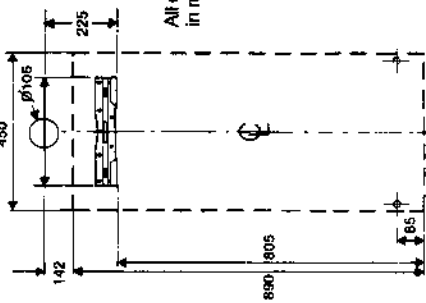

Fig. 13
5.4 Mounting the Appliance (Fig 13)
Alternatively, position bracket and holes to dimensions in fig 13.
Refer to fig. 13 and figs. 14-18 for relevant dimensions for locating the hole. Where it is remote from the boiler take special care to ensure hole is at the correct level so that the finished flue is horizontal.